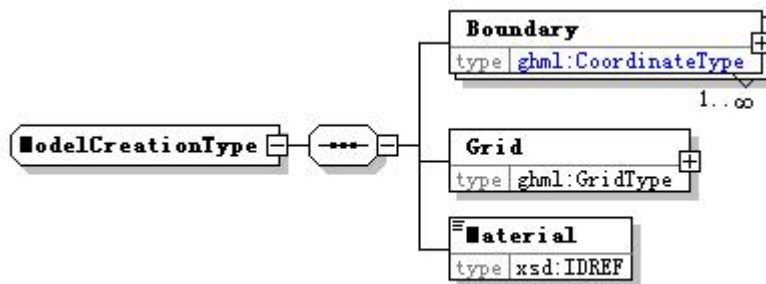

Figure 9. ModelCreationType
- **ModelCreation**[ModelCreationType] - How the model was created (Figure 9).